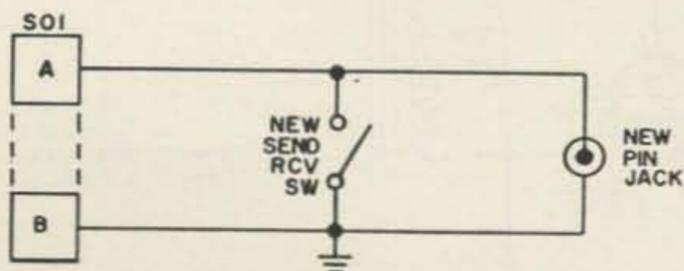

FIG. 2
1. Drill two holes in the front panel which will accommodate a SEND-RCV switch and a pin jack (RCA Phono Jack) for a keying relay connection. Due to the close spacings and limited panel space available, care must be exercised in location of the two holes. A 1/2 inch hole for the SEND-RCV switch is located 5 1/2 inches from the left and 1 13/16 up from the bottom. A three-eighths inch hole for the pin jack is drilled 6 inches from the left and 2 7/16 inches up from the bottom of the front panel. Refer to Fig. 2 for the schematic of the circuit.